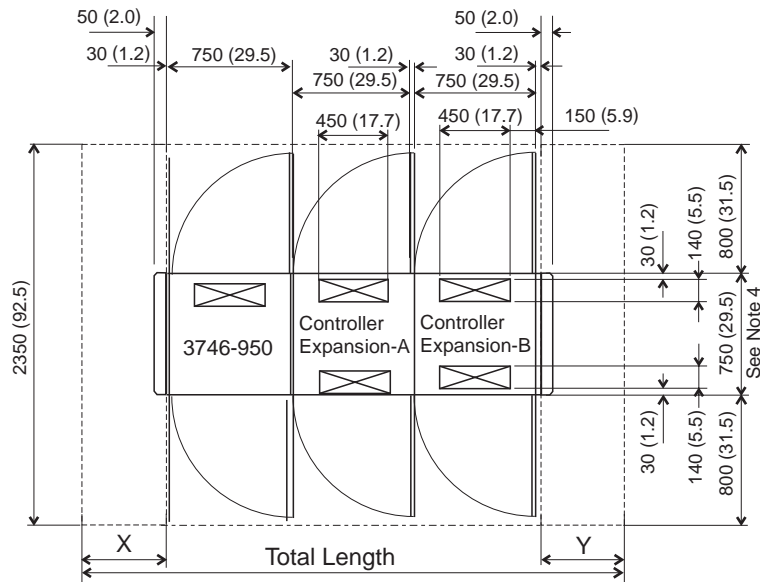
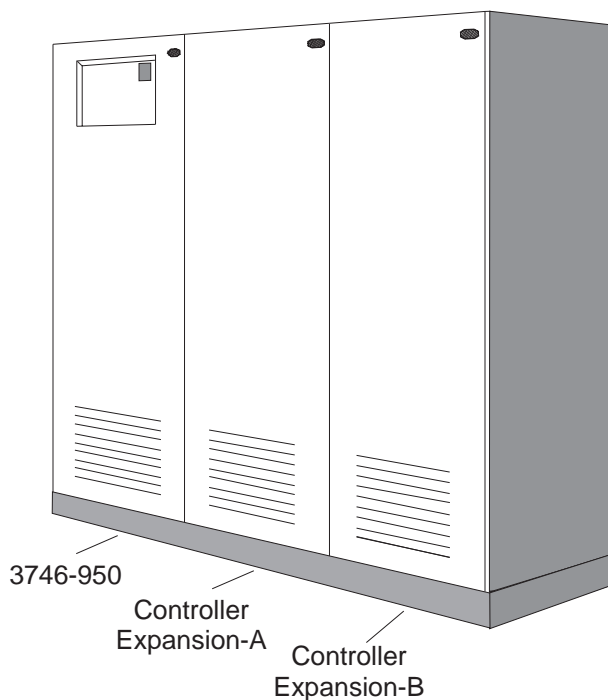

Figure 1-8. Plan View of a 3746-950 and two Controller Expansion Installed
Figure 1-9. The 3746-950 and two Controller Expansion Installed
**Note:** The controller expansion can be attached to the 3746-950 (see Figure 1-2 on page 1-4) or detached but no more than 6 meters (with the standard token ring cable shipped with the machine) from the 3746-950 (see Figure 1-4 on page 1-5 and Figure 1-5 on page 1-5). If two controller expansion are installed refer to Figure 1-8 on page 1-6 and Figure 1-9 on page 1-6.